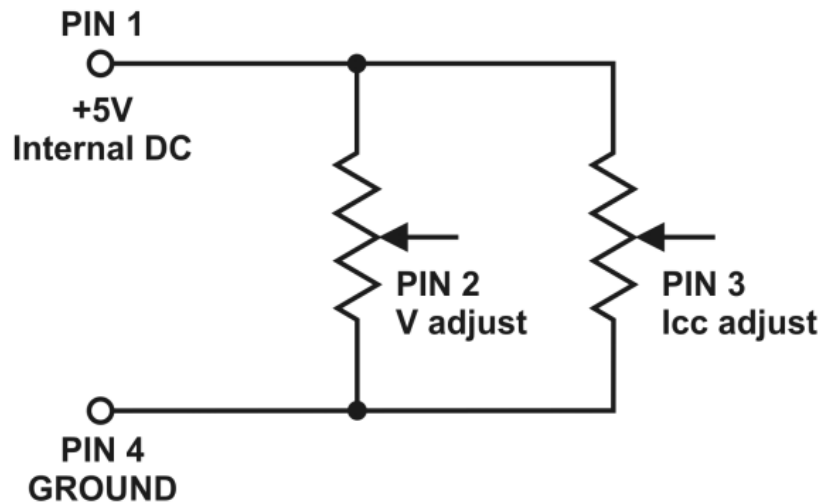

Figure 20 -Variable 5 k Ω Resistors Setup
2. Prepare two 5 kΩ variable resistors and connect wires from pins 1, 2, 3, and 4 as shown in **Figure 20** -Variable 5 kΩ Resistors Setup